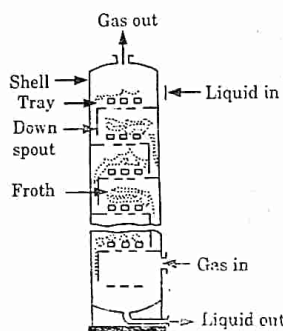
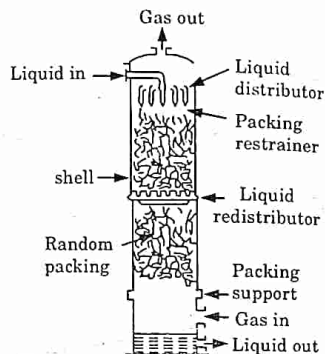

Fig. 4.1.1. Plate tower.
Fig. 4.1.2. Packed tower.
3. Other effective devices for removing gaseous pollutants, i.e., plate towers and packed towers, are shown in Fig. 4.1.1 and Fig. 4.1.2, respectively.